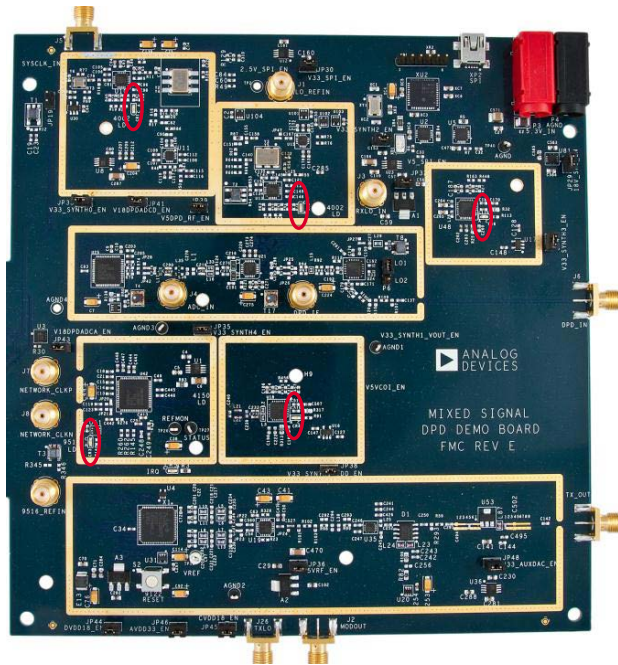

Figure 13. LEDs on MSDPD Board
- At this point, observe the five LEDs (CR1 to CR4 and CR6) near each of the PLL chips lighting up, signifying that all PLLs are locked (see Figure 13).